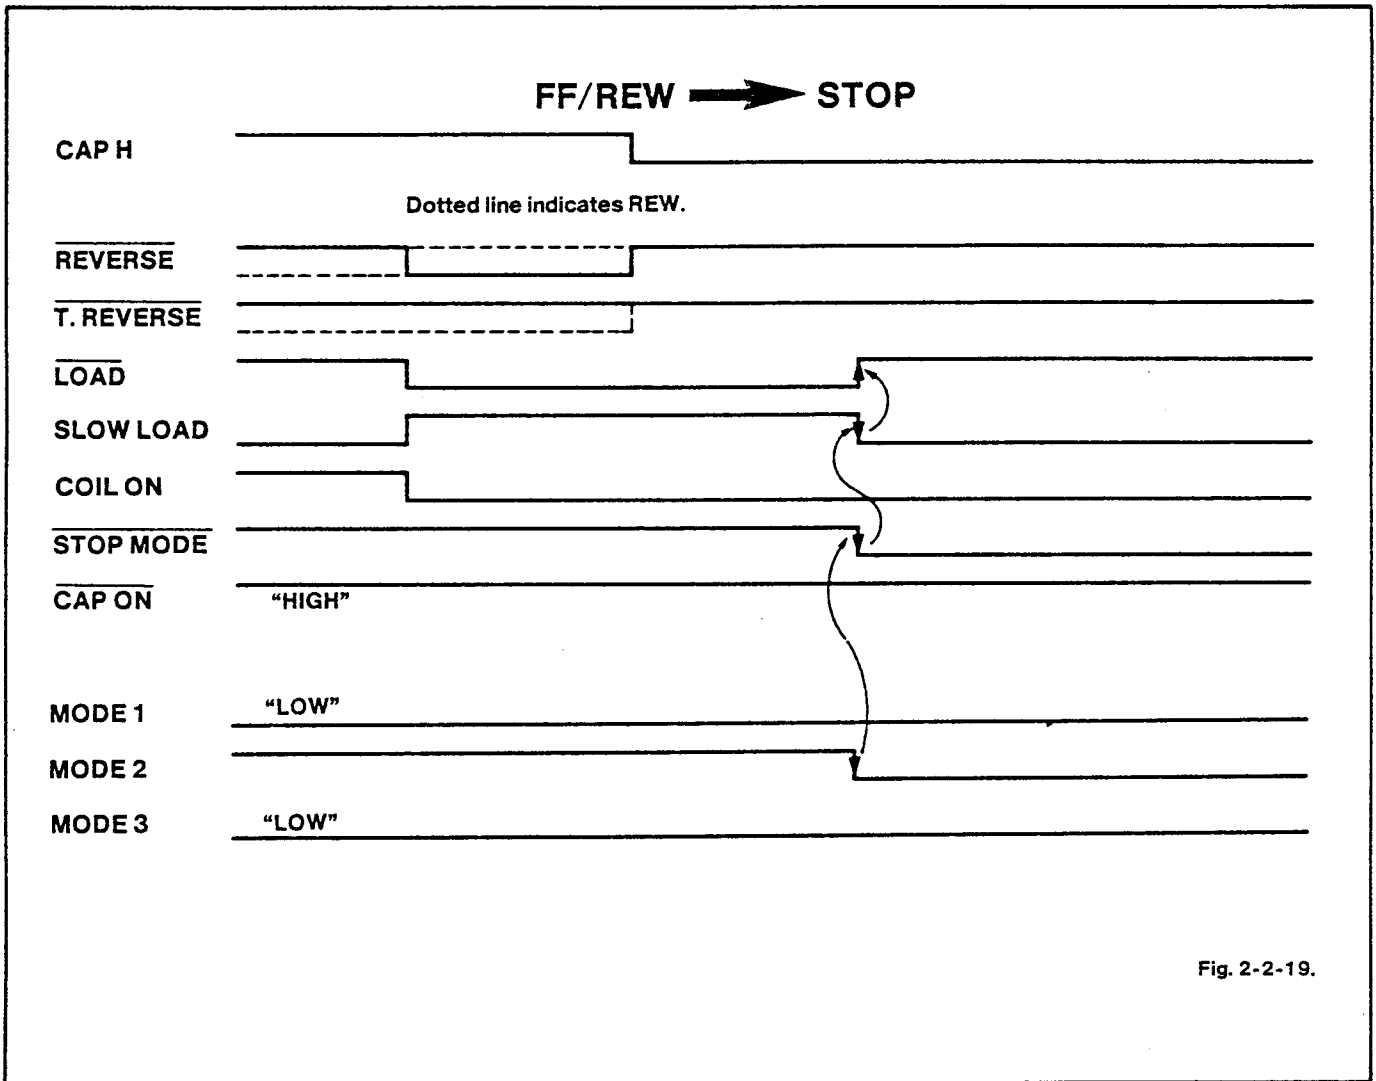

Fig. 2-2-19.
- b) CAP H is set to high and the capstan motor is driven in the forward direction (CW) [reverse (CCW) for REW] at maximum speed. At the same time, T REVERSE is set to high (low for REW).
15) FF/REW — STOP (See Fig. 2-2-19)